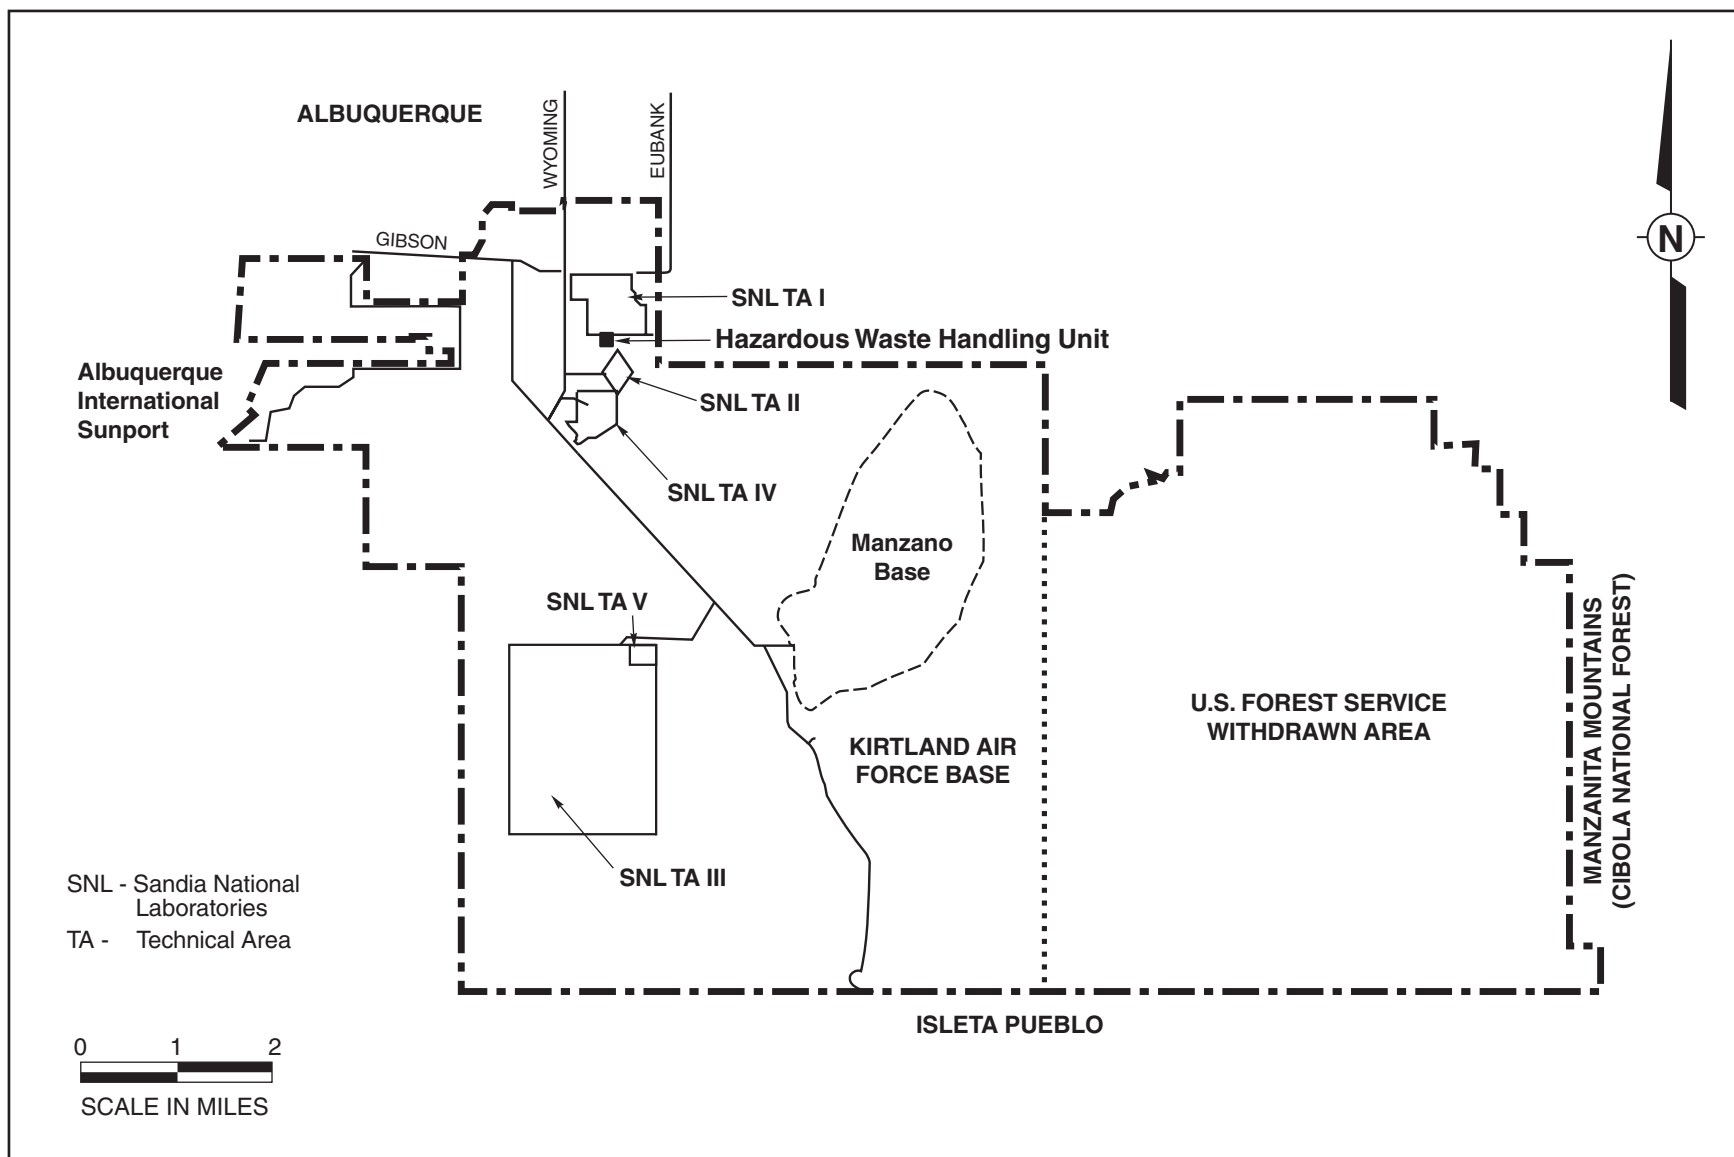

Figure 3
- Figure 3: Location of the Hazardous Waste Handling Unit at the Facility